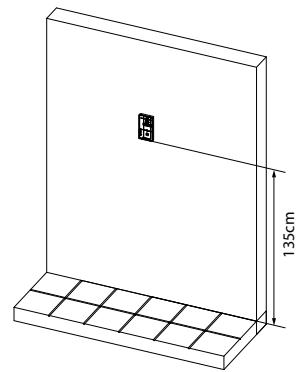
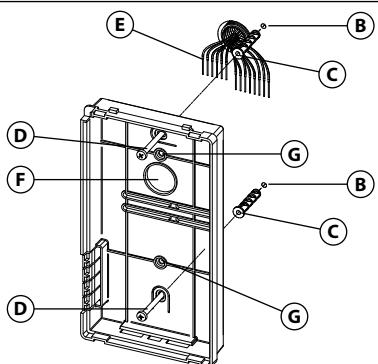

Fig. 3
Fig. 4
3. Put the base of the unit on the wall at approx 135cm from the finished floor (**Fig. 3**) to match the points for the fixing holes (B) (**Fig. 4**) remembering that the wires (E) (**Fig. 4**) must be fed through the large hole (F) (**Fig. 4**). If you use the flush mounting box 503, embed it into the wall vertically at approx. 140cm from the finished floor and the base.
4. Following **Fig. 4**, make the holes (B), insert the wall plugs (C) and fix the base with the screws (D) feeding the wires (E) through the hole (F). If you have used the box 503, fix the base to the wall through the holes (G) using the screws (D).